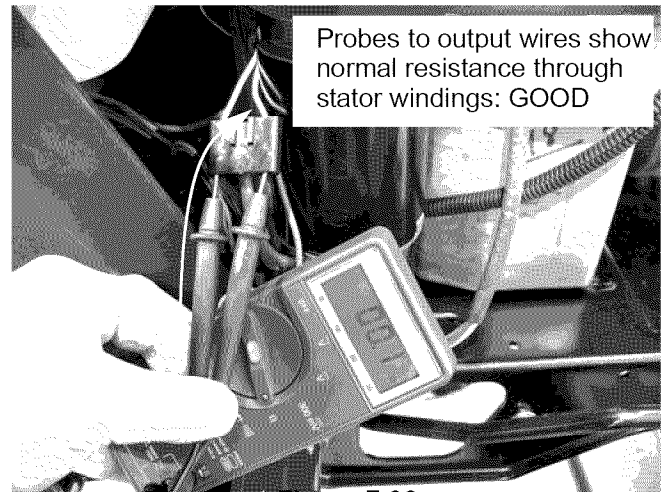

Figure 7.36
- 2b. Check the stator for resistance across the AC leads. The resistance should fall between the values specified by the engine manufacturer. See Figure 7.36.